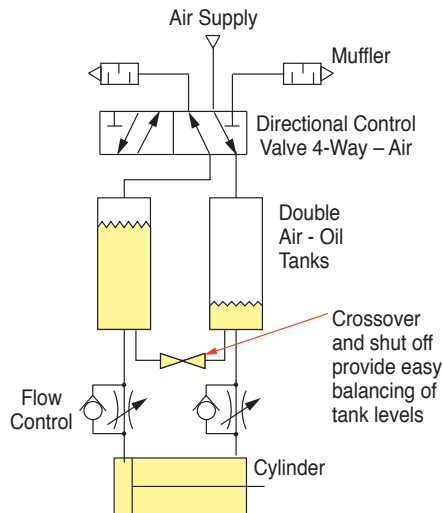

Figure 4. Controlling speed in two (2) directions
- 2 If the fluid levels in the tanks become unbalanced, the fluid is bypassing the cylinder's piston seal. This can occur in a new cylinder with U-Cups designed for air service or side loading on the piston rod. In old systems the bypass can be a result of seal and cylinder wear, seal shrinkage, or other reasons. A crossover valve can allow for tank balancing. (See Figure 4.)